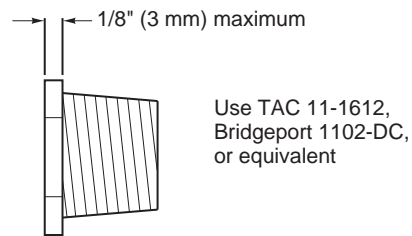
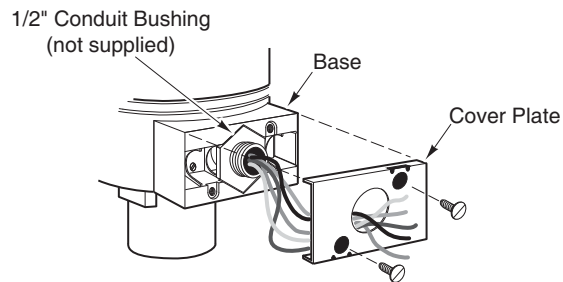

Figure-10 1/2" Conduit Bushing.
Figure-11 Conduit Bushing and Cover Plate Installation.
2. Slip the actuator's leads through a standard 1/2" conduit bushing (Figure-10, not supplied) and the knockout hole in the cover plate. Refer to Figure-11.
Note: As shown in Figure-11, the hole in the actuator's cover plate is also sized to accept both British standard M20 (20 mm) conduit connectors and 20 mm-to-PG16 adaptors for use with DIN PG16 connectors. (Follow the steps for installing the conduit box to the actuator.)